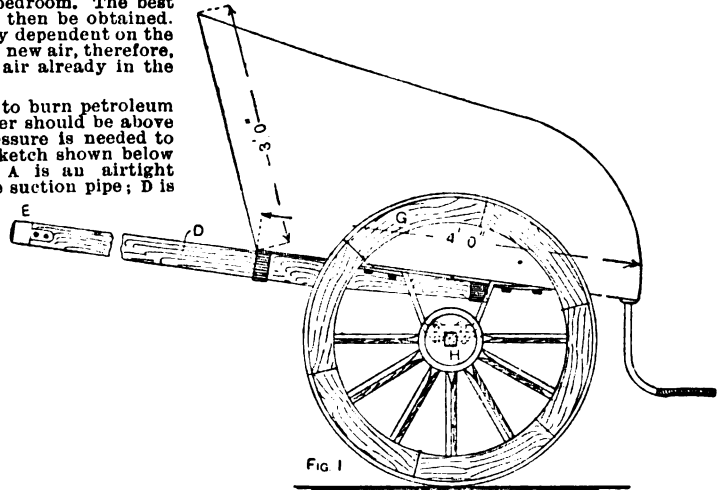
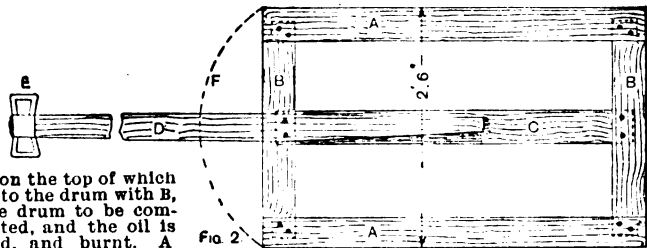

Fig. 1
Fig. 2
**Roman Chariot.**—Fig. 1 is a side elevation of a Roman chariot for use in a carnival; Fig. 2 is a plan of the bottom framing drawn to a scale of  $\frac{1}{4}$  in. to the foot. For the bottom frame thoroughly dry English ash should be used; the two bottom sides A (Fig. 2) are 4 ft. long by  $3\frac{1}{2}$  in. wide by 2 in. deep; the two cross bars B are 2 ft. 3 in. long by  $4\frac{1}{2}$  in. wide by 2 in.; the centre bar C is 4 in. wide by 2 in. deep, and framed as shown.
The pole D (Figs. 1 and 2) is 9 ft. long by  $3\frac{1}{2}$  in. square, tapering towards the front to 2 in., and a pole crab is fitted as shown at E. The sweep at the front of the body is indicated by the dotted line F (Fig. 2). The bottom boards are 1-in. elm, the grain running across the body. The wheels G (Fig. 1) are 3 ft. high, the felloes 3 in. square, the diameter of stock is 8 in., and the length of the stock 9 in. The spokes, twelve in number, are  $2\frac{1}{2}$  in. The axle H (Fig. 1) is  $1\frac{1}{2}$  in. square, and is fixed to the iron stay. The distance between the flap and collar is 2 in., and a common grease axle is used, having right- and left-hand threads and a linch pin. The body should be painted yellow, picked out in blue, and the wheels red, picked out in black. The sides and front may be of canvas, and battens will have to be put in the body to keep it in shape. The pole will have to be fitted with two whiffle-tree bars, and the harness will consist of bridle, breast strap and pad, crupper strap, and reins.